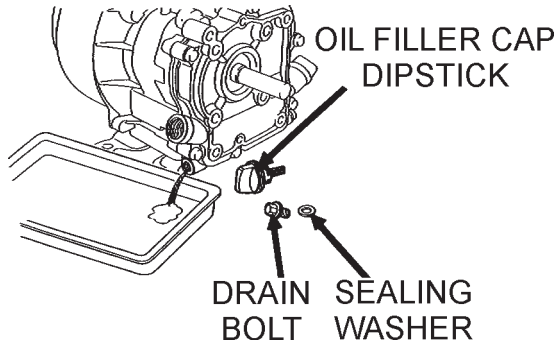

Figure 16. Engine Oil Plug
- When changing the engine oil, the old oil can be drained by removing the oil filler cap, and unscrewing the engine oil drain plug located at the base of the engine (Figure 16).